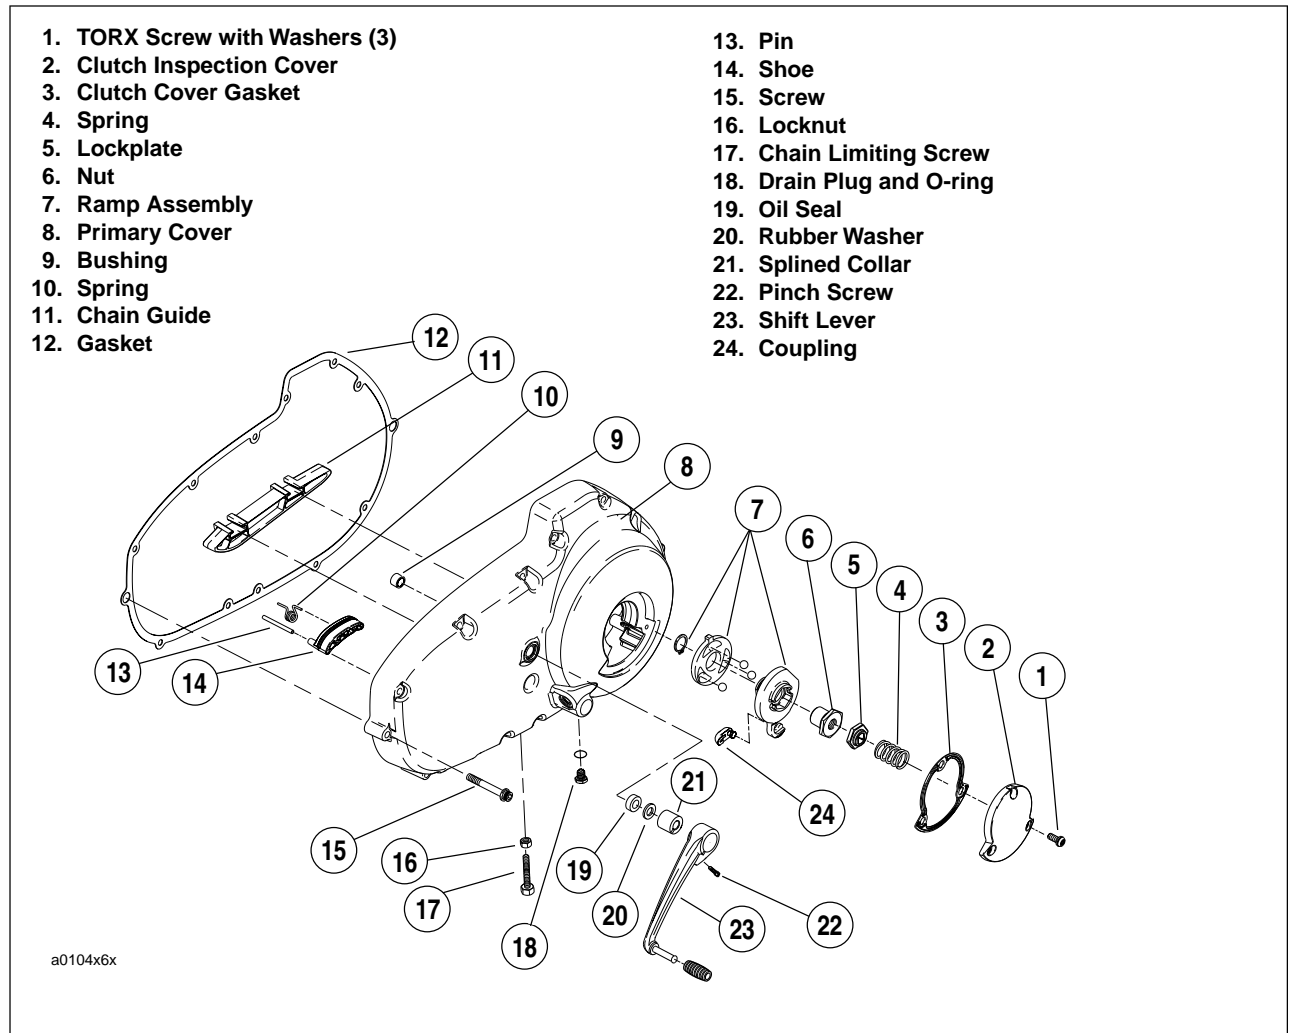

Figure 6-1. Primary Cover and Shifter Assembly
3. See Figure 6-1. Place a drain pan under the engine. Remove drain plug and drain lubricant from primary drive.
4. See Figure 6-1. Install **new** shifter lever oil seal.
11. See Figure 6-1. Install rubber washer and shifter lever assembly.